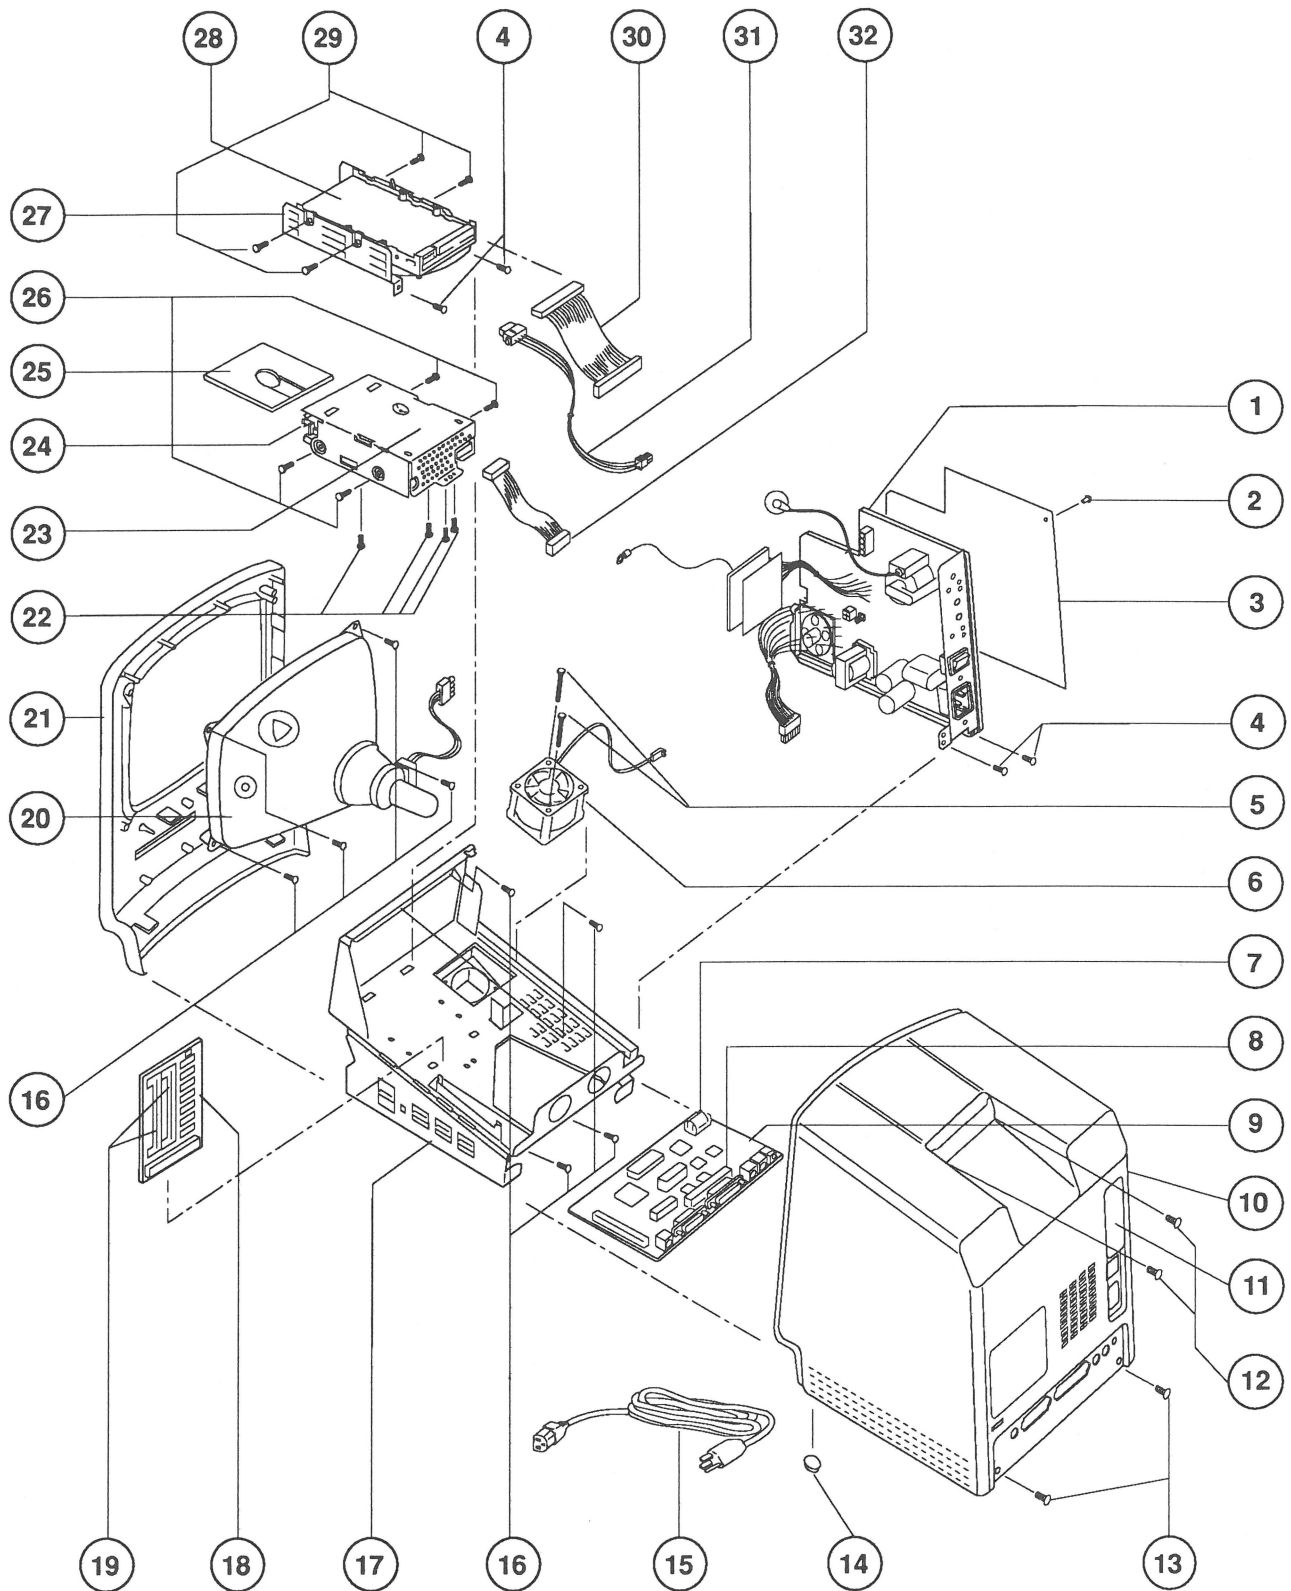

Figure 1
IPL.3 Internal View (Figure 1)
□ INTERNAL VIEW (Figure 1)